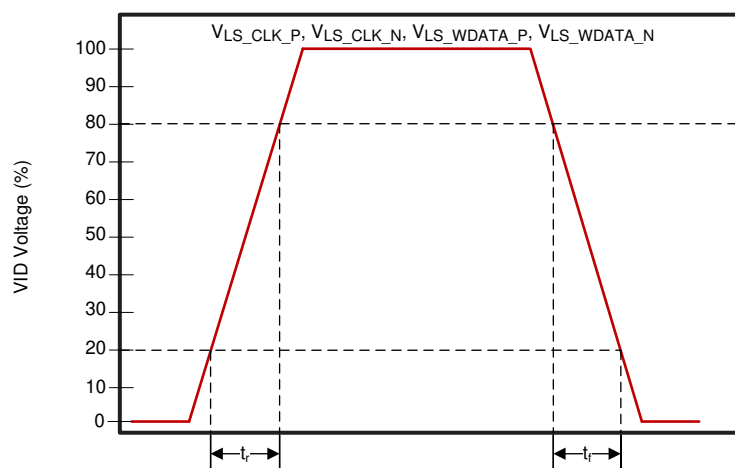

Figure 5-5. LSIF Rise, Fall Time Slew
(2) See Figure 5-5 for rise time and fall time for LSIF.